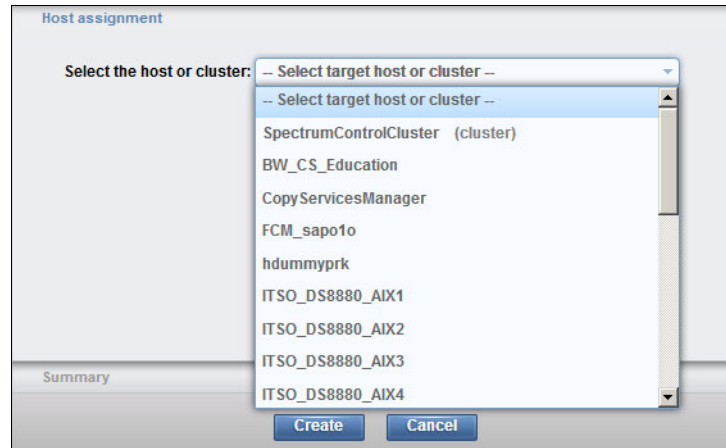

Figure 11-58 Advanced FB Volume by Volume Set Host Mapping
- In the Host Assignment section, select a host from the list to map the volumes to, as shown in Figure 11-58.